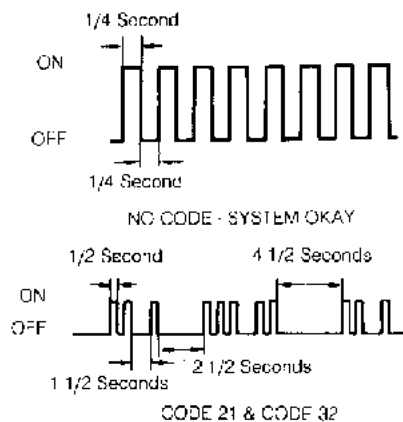

Fig. 2: Displaying Codes
5) Count number of flashes from CHECK ENGINE light. If system is operating properly (with no codes), CHECK ENGINE light will flash continuously and evenly. See Fig. 2.
digits. See Fig. 2.